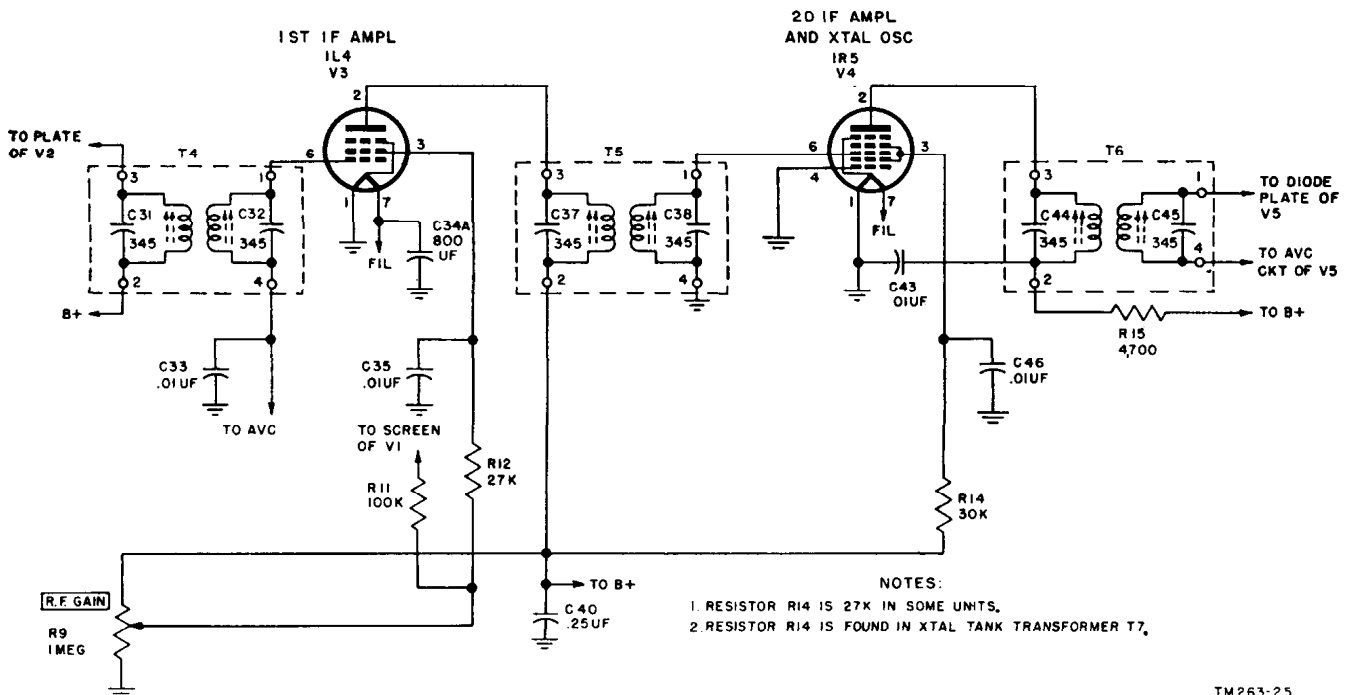

Figure 60. If. amplifiers, simplified schematic diagram.
c. The hf oscillator is tuned by TUNING capacitor C7C so that it is always 456 kc higher in frequency than the signal frequency. Thus, when the received signal from the rf amplifier is applied to grid 3, pin 6, of tube V2, the two frequencies will beat together, forming sum and difference frequencies. The tuned primary of if transformer T4 (fig. 60) is resonant at the difference frequency of 456 kc and, therefore, allows only this frequency to continue on to first if amplifier V3.
### 90. Intermediate Amplifiers V3 and V4 (fig. 60)
f. Resistor R14, which is located within T7, is the screen grid voltage-dropping resistor. Capacitor C41 prevents rf energy from entering the power supply by placing the lower end of the crystal and the tank circuit at ground potential. Capacitor C39 and grid leak resistor R13 develop the bias voltage for the oscillator grid, pin 4. Capacitor C46, the usual screen grid bypass (fig. 60) is removed from ground by switch S3-1, placed in the CAL. position (par. 95) to permit the oscillator section to function.
- (1) In the PHONE position, avc is fed through R1 to the control grid of V1 (fig. 57) and through the secondary of T4 to the control grid of if. amplifier tube V3 (fig. 60). To prevent dis-